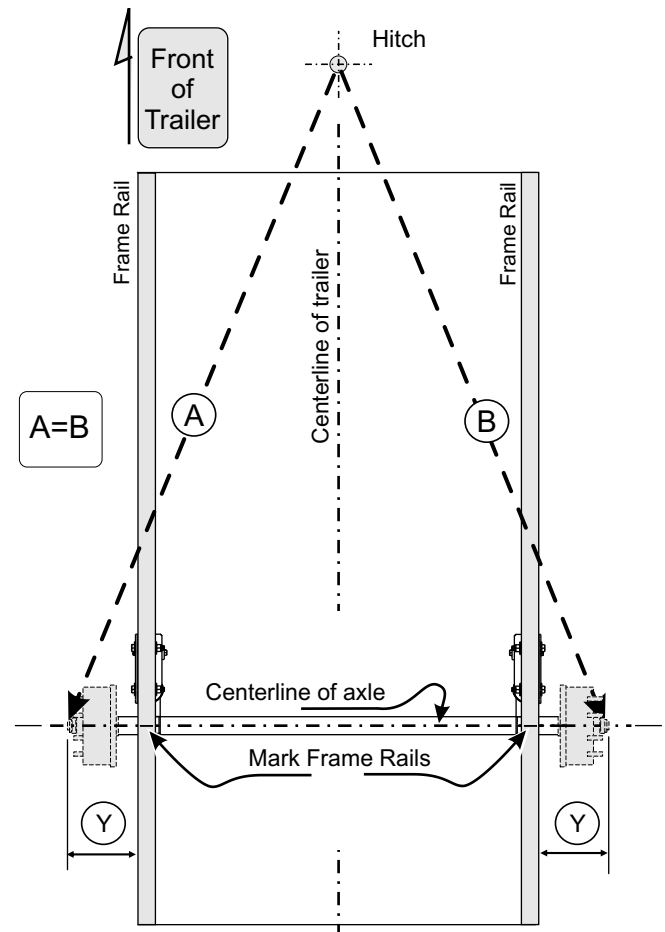

Fig. 1 Axle alignment (View from Top)
- 1) Mark frame rails at each side where centerline of axle should cross frame (fig.1).
- 5) To align axle, measure and compare distances "A" and "B" (fig. 1) and make sure that the error (the difference between "A" and "B") is no more than 1/8". If the error is greater than 1/8" reposition frame brackets and recheck.